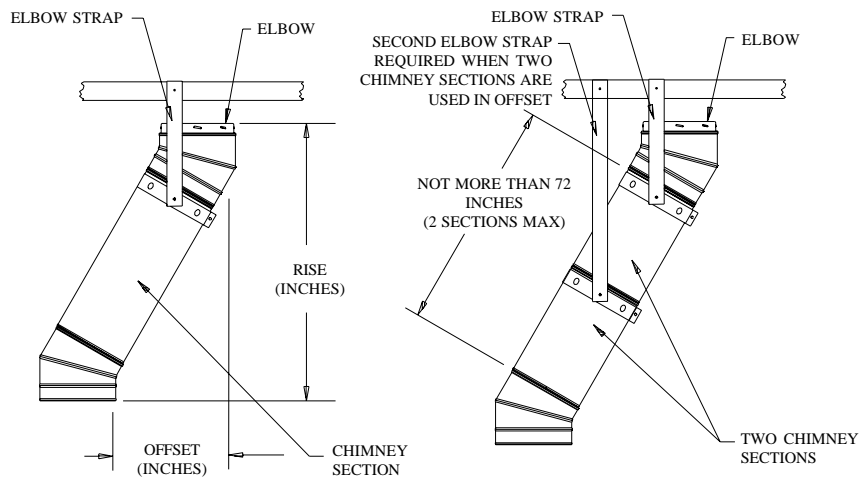

Fig 15
1. Attach Elbows: Attach Elbow to Chimney Section or other Elbow by twisting clockwise until they lock firmly. Attach one Elbow to the Chimney Section below, and align it for the offset. Elbows for DuraTech have a swivel feature that allow for 360° rotation for ease of installation. Refer to Table 3 to determine the required offset length and attach an appropriate length (or lengths) of Chimney Section above the Elbow. The maximum length of chimney pipe between elbows is not to exceed 72" (maximum of two chimney sections only). Attach the second Elbow above the Chimney Section to complete the offset (Fig 15).
2. Secure Offset: Place the Elbow Strap's band around the angled portion of the top Elbow, then tighten the nut and bolt until the clamp is firm. Wrap the Elbow Strap end over an adjacent joist or rafter and secure it with at least (2) 8-penny nails or (2) #8, 1-1/2 screws. Do not add more Chimney Sections until the Elbows are supported. Be sure that the chimney remains vertical. If there is more than one Chimney Section between the Elbows, install a second Elbow Strap around the joint of the two Chimney Sections (Fig 15).